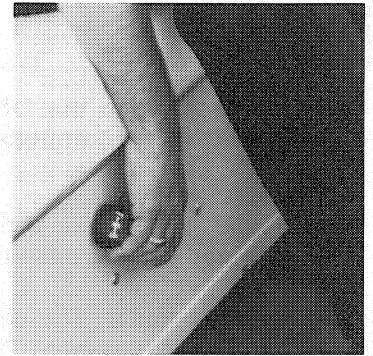

Figure 3
Forward-Reverse Control - The forward-reverse shift lever is located below and to the right of the driver's right knee on the seat support panel (See Figure 3). The lever has three (3) distinct positions: F (forward), N (neutral), and R (reverse). Rotate the lever toward the driver (F) to run the car in forward and toward the passenger (R) to run the car in reverse. When the lever is in the straight up or neutral (N) position, the car will not run and the engine will stop if shifted to this position while running. The DS Electric runs at half speed in reverse.